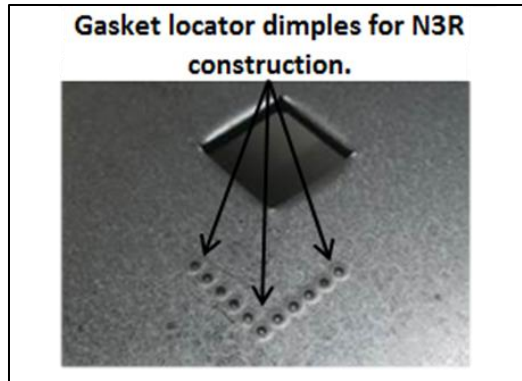

Figure 3. Gasket locator dimples diagram
- Inspect the top of the switchboard to identify the gasket locator dimples as shown in Fig. 3. These will be used to align the gasket on the top of the switchboard.